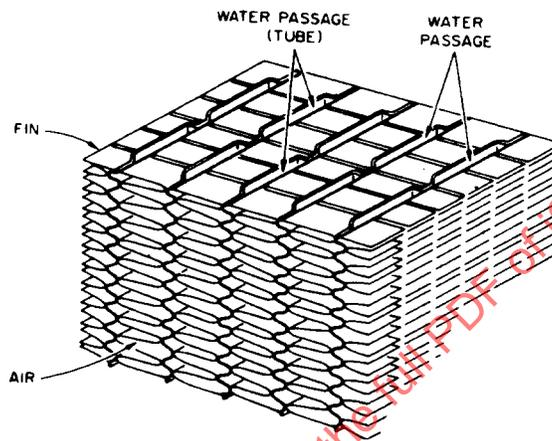

FIGURE 5—CELLULAR CORE
- 3.9 **Cellular Core**—A radiator core having a number of fluid passages made by joining metal ribbons at the edges and grouped to form a cellular structure. Parts of the cellular structure may be of formed or flat ribbon which is not a part of the fluid passages. See Figure 5.